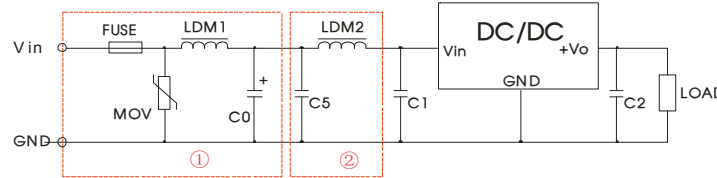

Fig. 5 EMC compliance circuit
Note: Part ① in Fig. 5 shows EMS compliance filter and part ② filter for EMI compliance; depending on requirement both filters ① and ② can be used in series as shown.